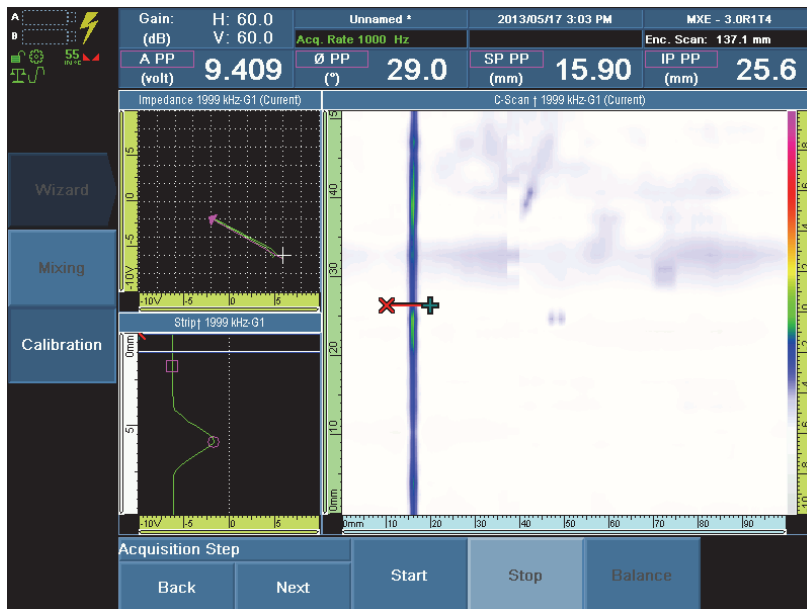

Figure 10-7 Acquiring the data of the critical defect signal
- To balance the signal, select **Balance** (see Figure 10-7 on page 197).